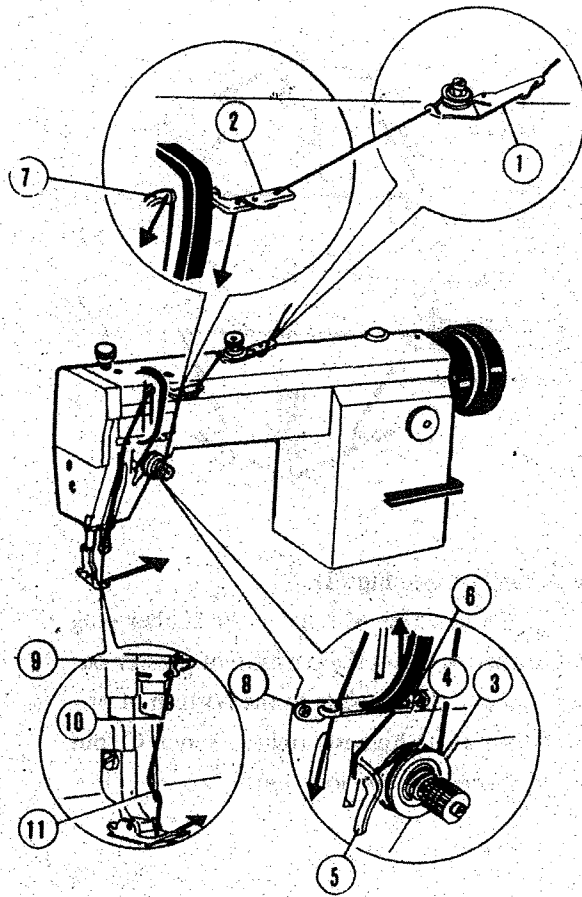

Fig. 18
To thread the needle, raise needle bar to its highest position, pull thread from the spool and pass it in the numerical order depicted in Fig. 18. (1) Pull thread from spool, pass it through the guide plate (1) at the top of the machine, then thread it between the thread tension discs, and thru the left hole of guide plate(1). Continue through three-eyed thread guide (2). (3) Pass thread between thread tension discs (3). Pass upward thru thread take-up spring (4) and thread guide (5) and (6) then pass it through the thread take-up lever (7) from right to left. (5) Pass it down thru thread guide (8), (9) of needle bar bushing (lower) and needle bar thread guide (10). Then pass it from the left through the needle eye (11), once threaded pull out approximately 3 inches of thread. To draw up the bobbin thread, hold the end of the thread, turn the balance wheel to lower the needle bar and then continue until it reaches its highest position. Pull the needle thread and the bobbin thread will follow. Pull the ends of both threads towards you and under the presser foot.